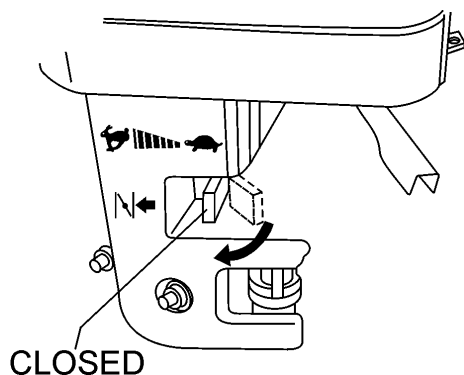

Figure 25. Choke Lever Closed
7. If the engine has started, slowly return the choke lever (Figure 25), cold start only to the **CLOSED** position. If the engine has not started repeat steps 1 through 6.